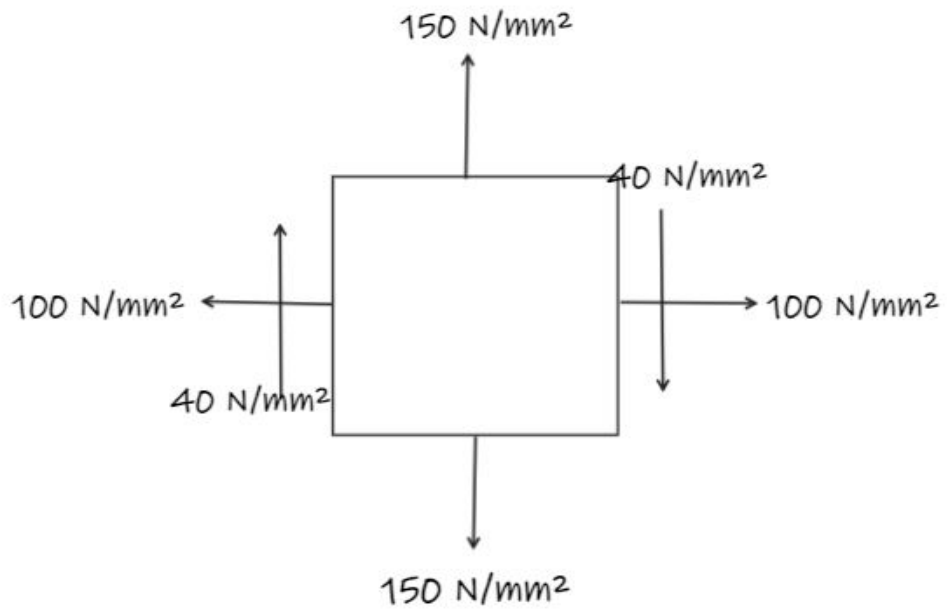

Fig. 5 Q.5 (c) & Q.5 (c)OR
- (c) A strained body is as shown in **Fig.5**. Determine principle stresses and principle planes by Analytical method. **07**